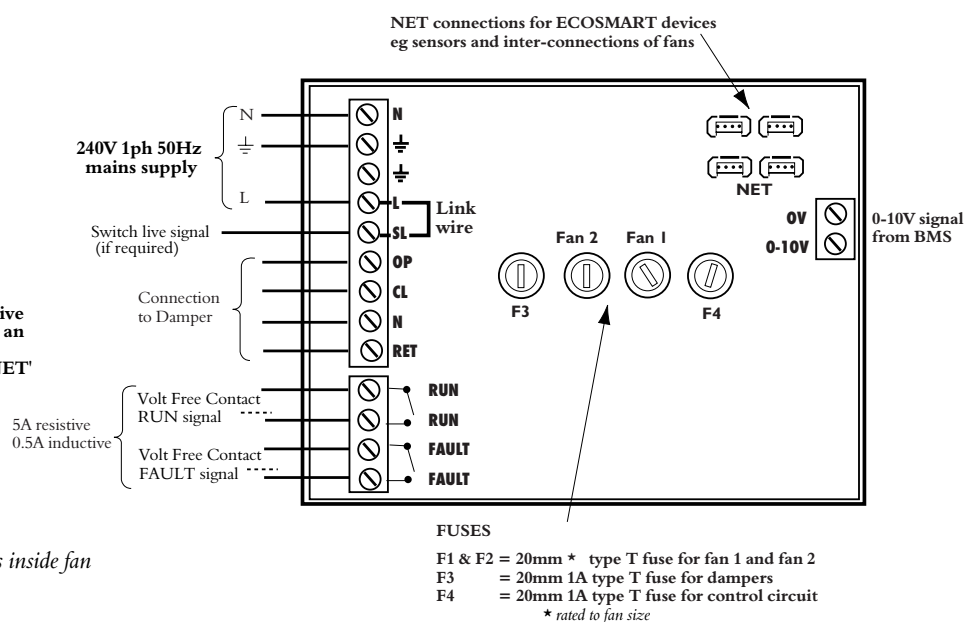

Fig. 5. Control module connection details inside fan
a) Control Connections (see fig 5).